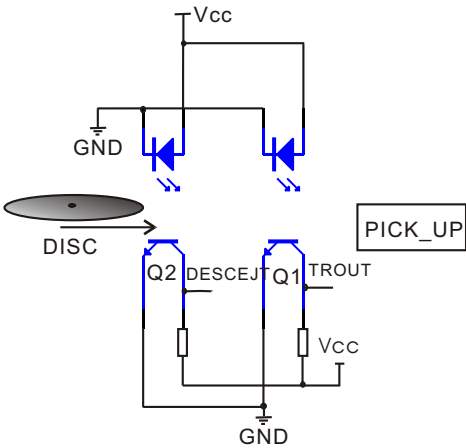

Figure 3.2.5.1 Slot-in circuit diagram
1. Slot-in circuit is shown in the figure 3.2.5.1: